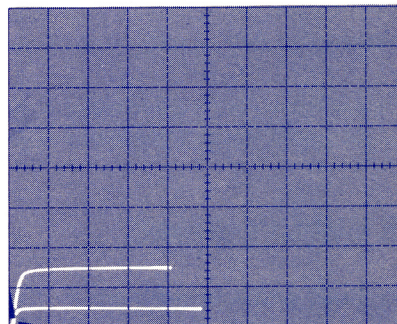

Figure 4-1. Display of small signal transconductance G_m .
- 2) Apply power to device – Position LEFT-RIGHT switch on 177 to appropriate side. Increase VARIABLE COLLECTOR % supply until specified voltage is reached on horizontal. [4 divs, or 20 V]. See Figure 4-1. 34 8